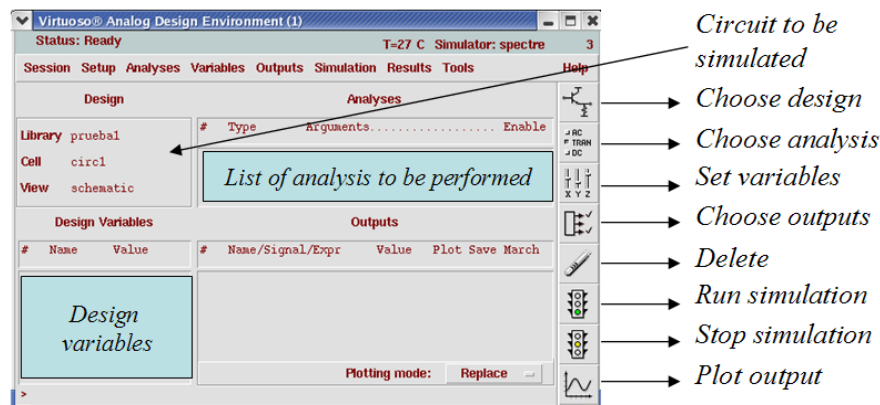

Figure 11. Analog Design Environment window.
After the transistor-level description of a circuit is completed using the Schematic Editor, the electrical performance and the functionality of the circuit must be verified using a Simulation tool. The detailed transistor-level simulation of your design will be the first in-depth validation of its operation, hence, it is extremely important to complete this step before proceeding with the subsequent design optimization steps. Based on simulation results, the designer usually modifies some of the device properties (such as transistor width-to-length ratio) in order to optimize the performance. The initial simulation phase also serves to detect some of the design errors that may have been created during the schematic entry step. It is quite common to discover errors such as a missing connection or an unintended crossing of two signals in the schematic. Some of these errors (e.g. floating nodes) can be detected even before simulation, by pressing the **Check and Save** icon in the schematic window. The second simulation phase will follow the "extraction" of a mask layout (post-layout simulation), to accurately assess the electrical performance of the completed design. Like in other simulation environments, it is the netlist text file *extracted* from the schematic (or layout) what is actually simulated. In order to start simulations, from the Composer window that contains the schematic you want to simulate, choose **Tools > Analog Environment**. The simulation window appears (Fig. 11).
- e) Click **OK**. Two design windows will pop up (see Fig. 11), LSW and Virtuoso Editor.